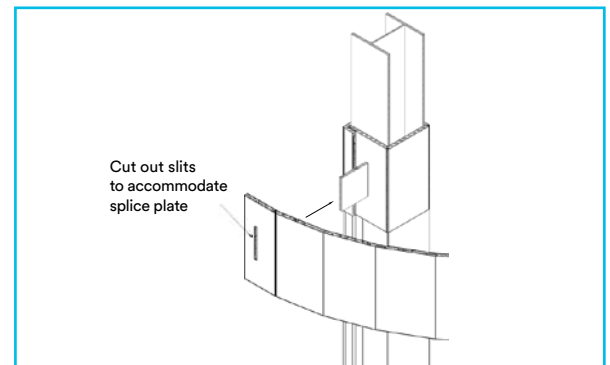

Figure 1
- 1 Measure the total length of splice plate. Cut and slit E-Mat to the length of the penetrating item. The E-Mat is to be applied around the penetrating item. In this example, we are showing installation around a splice plate (protruding item). Measure the total length of the splice plate, cut and slit E-Mat to this length and apply accordingly (*Figure 1*).